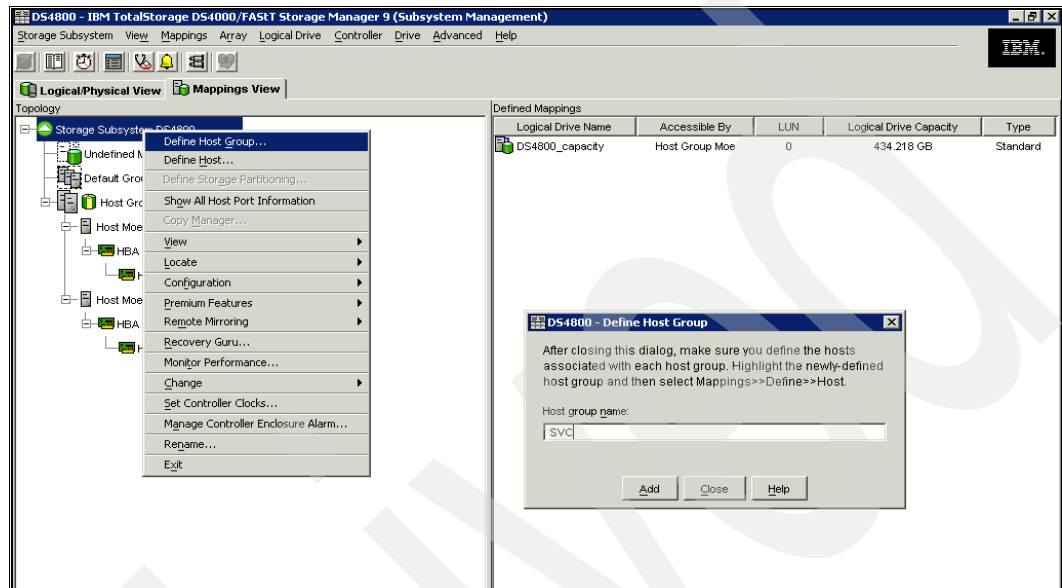

Figure 4-6 Adding an SVC host group to the DS4800
1. Figure 4-6 shows the preliminary screen for adding a host group for the SVC to the DS4800.